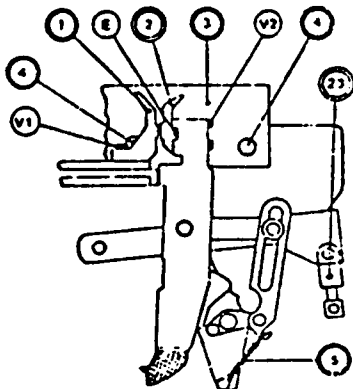

Fig. 26
B. Arcing Contacts and Insulating Strips (Fig. 26).
1. **Arcing contacts.** With breaker in open position, loosen retaining bolts VI and remove contact by sliding forward. Replace with new contact leaving retaining bolt VI loose. Close breaker and loosen bolt V2 (two per contact) approximately 1.5 mm (0.059 inch) or until contact clears locating boss E, then remove by lifting upwards. Replace with new contact, checking to see that contact seats in locating boss before tightening bolt V2. With 0.9 mm (0.035 inch) feeler gauge, position contact (1) and tighten bolt VI.